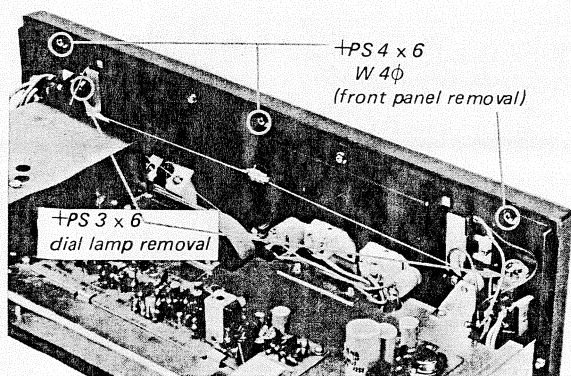

Fig. 2-3 Front panel removal (1)
3. Remove the three screws (+PS 4 X 6) behind the top edge of the front subchassis assembly. See Fig. 2-3.